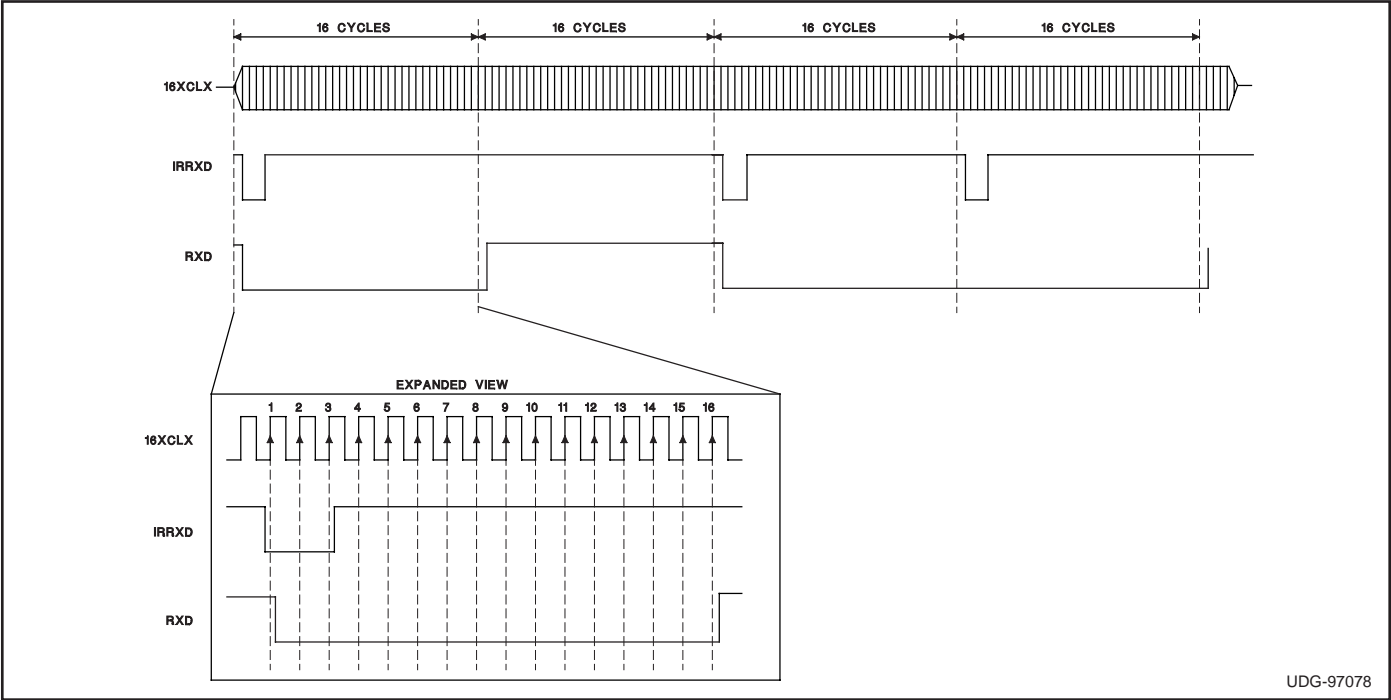

Figure 3. IrDA Decoder Timing Diagram
is translated into a space (0) on the RXD output. If a series of pulses separated by 1 bit time are received, then the result is a 1 bit time low pulse for every 3/16 pulse received. The decoding scheme is shown in Figure 3.